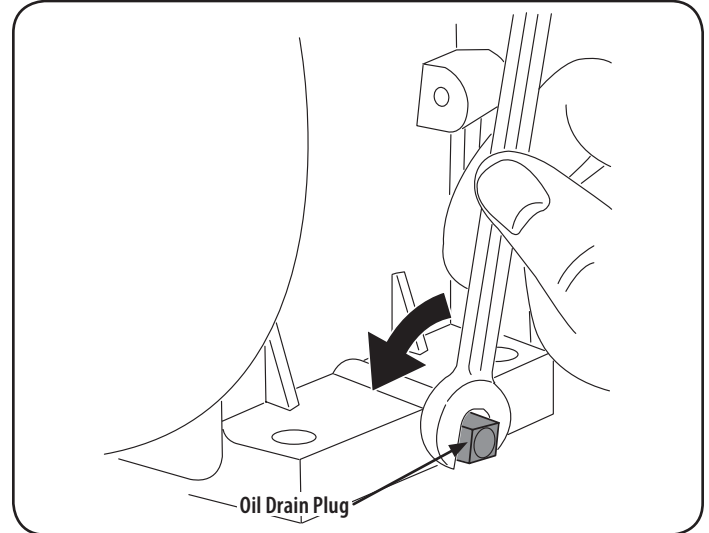

Figure 8
4. Remove the oil drain plug, see Figure 8.